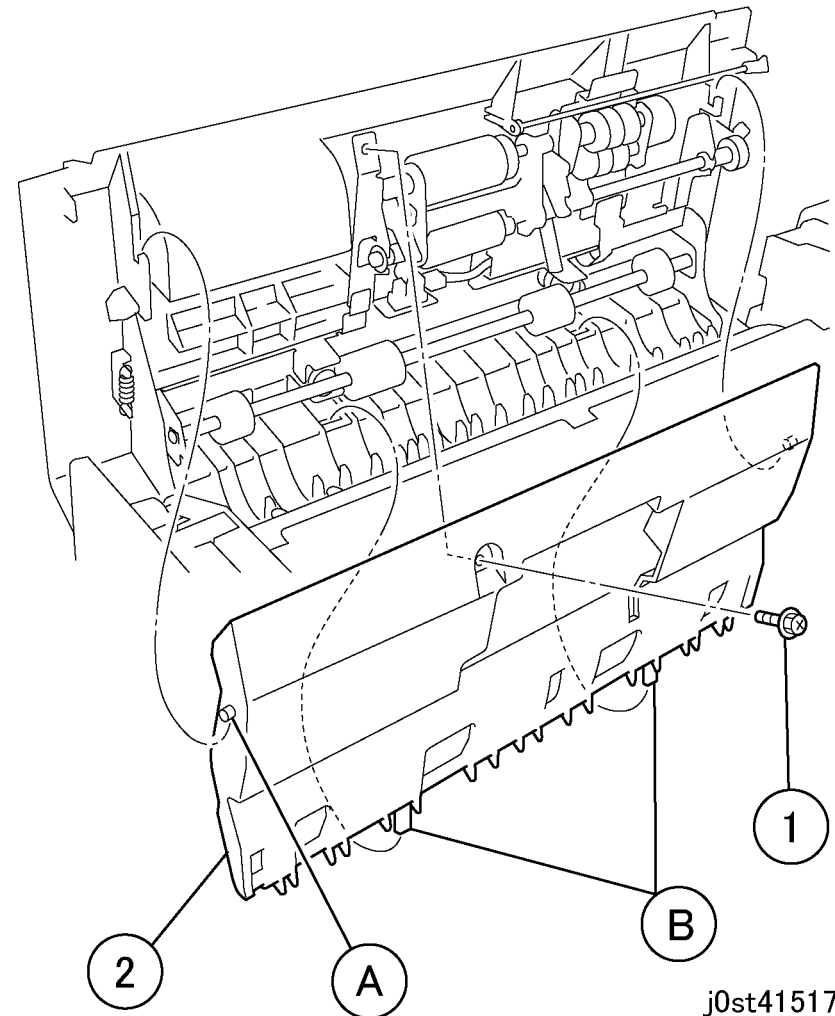

Figure 1 Removing the Feed Upper Chute
2. Remove the Feed Upper Chute (Figure 1).